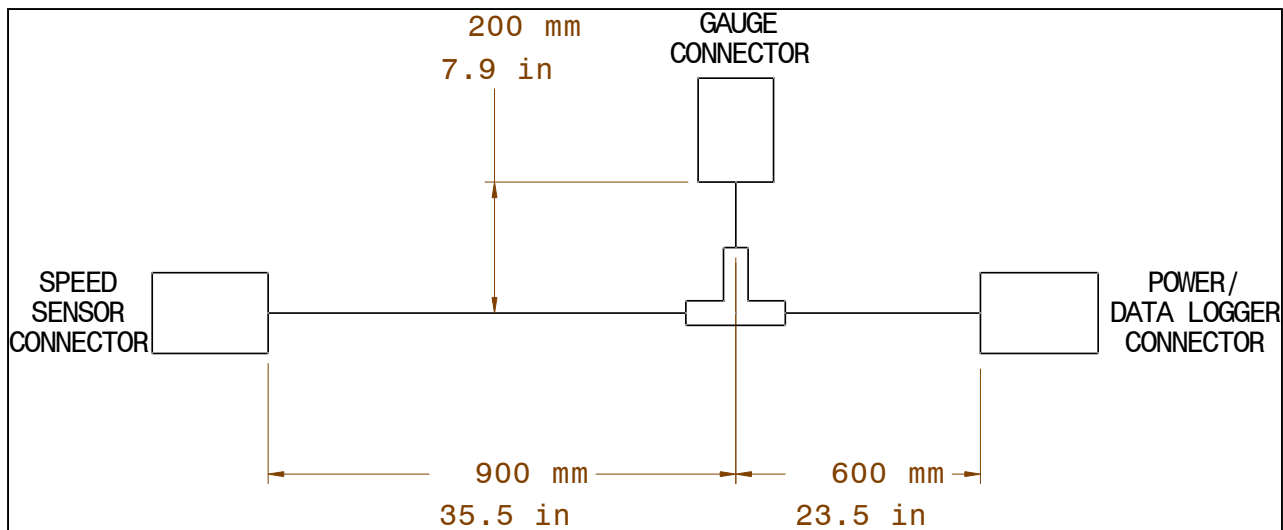

Fig. 13: Wiring Harness Diagram
13. Unpack the 3-way wiring harness and find the longest end (3 pins, approx. 35.5 in / 900mm long). This end connects to the speed sensor. Connect the harness to the sensor and lay the harness out in the engine bay to begin determining wiring harness routing. See figure 13 below.